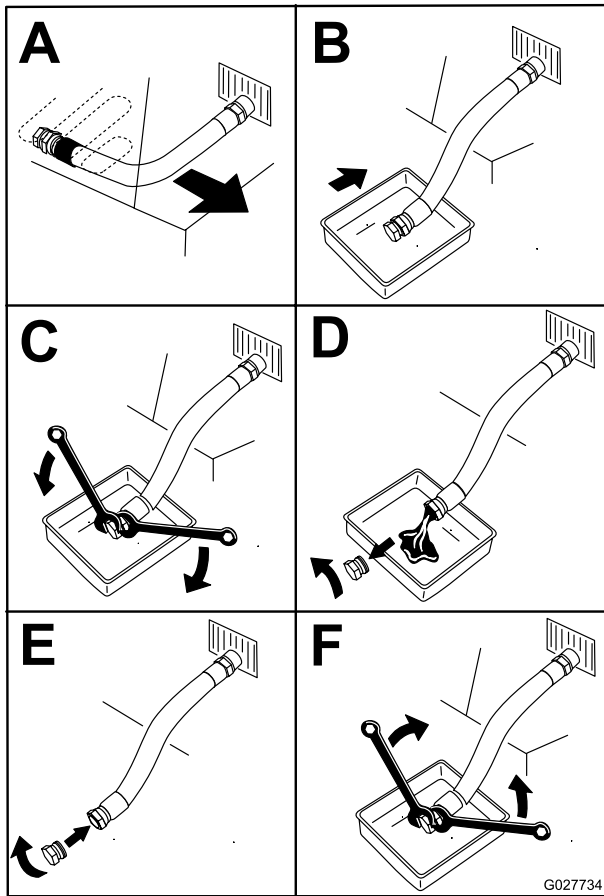

Figure 52
4. Drain the oil from the engine (Figure 52).